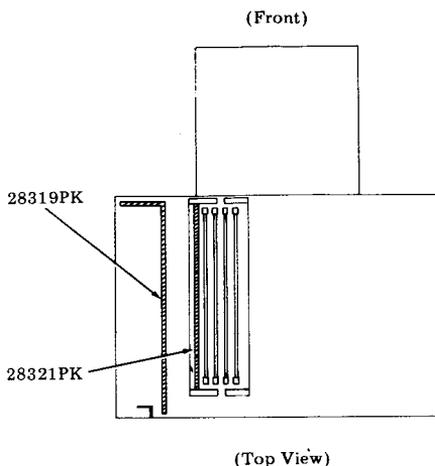

Fig. 9
4.07 Position a 28319PK corrugated detail between the side of the door opening and the controller frame. See Fig. 9.
4.08 Position a 28321PK corrugated detail between the controller frame and the 410251 circuit card. See Fig. 9.